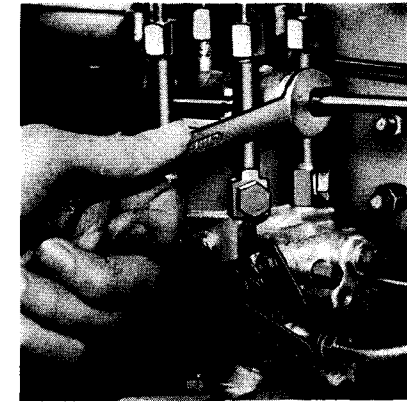

Fig. 10
4. Slacken the type union nut (see fig. 10) at the pump inlet, operate the priming lever and retighten when fuel, free from air bubbles, issues from around the threads.